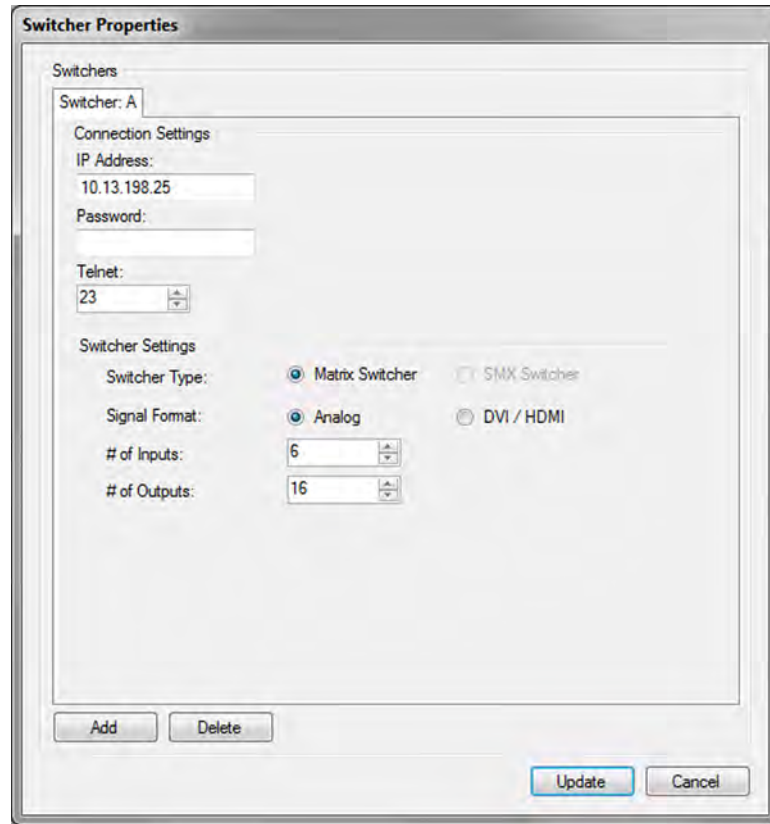

Figure 21. Switcher Properties Screen
- b. On the Switcher Properties window, enter any changes to the switcher IP address, Telnet port number, password, and number of inputs and outputs (see figure 21 on the next page).